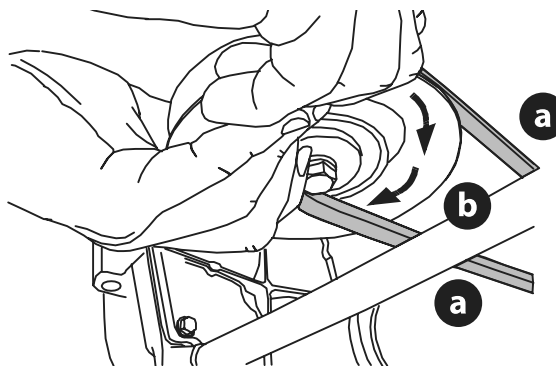

Figure 42
- While still holding the PTO belt (a) downward, continue turning the PTO pulley (b) until the PTO belt (a) is rolled off the PTO pulley (b) (Figure 42).
- Pull the right side of the PTO belt rearward and place the narrow V-side of the PTO belt into the PTO pulley (Figure 42 on page 30).
- While holding the PTO belt and PTO pulley together, rotate the PTO pulley to the left (Figure 42 on page 30). Continue holding and rotating the PTO pulley and PTO belt until the PTO belt is fully rolled into the PTO pulley.